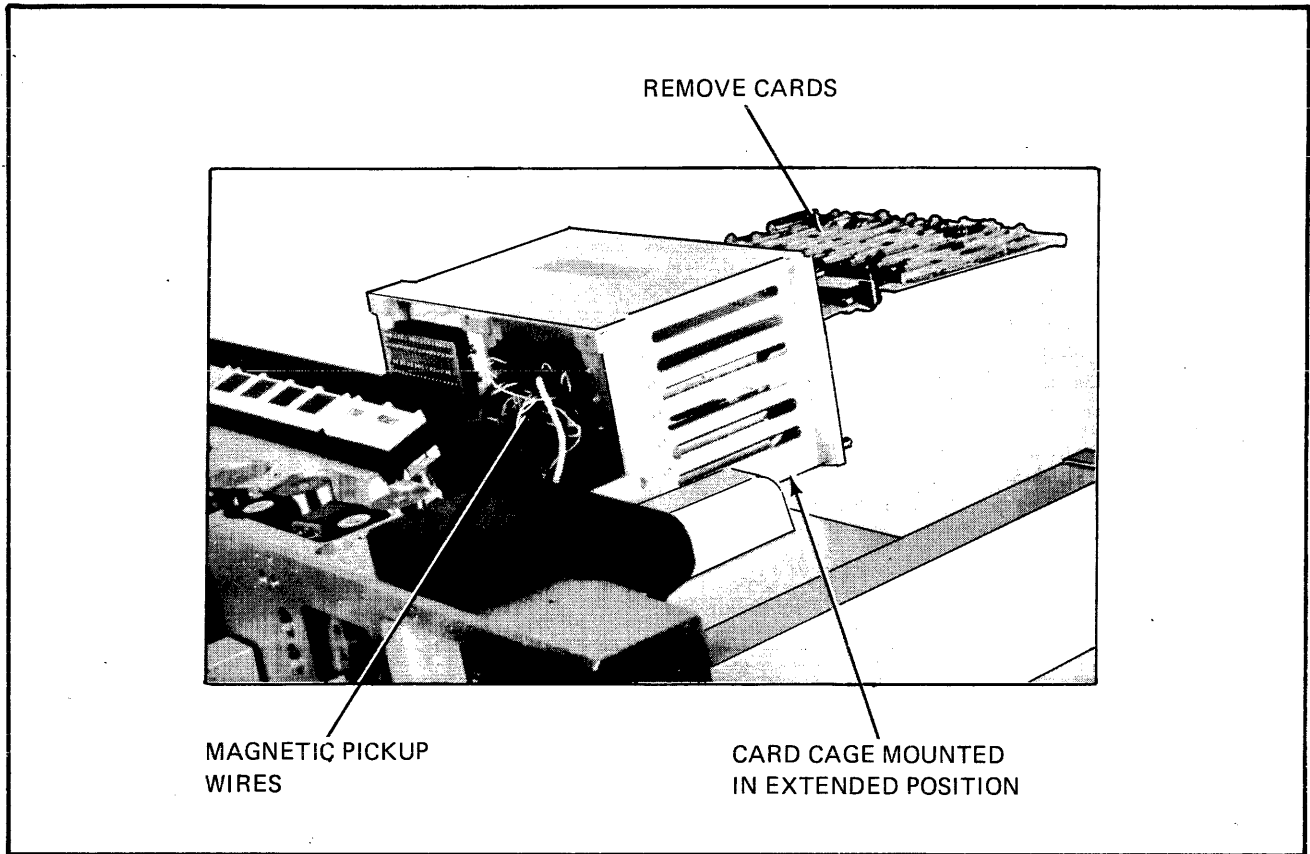

Figure 9-13. Card Cage in Extended Position
- g. Remove all cards from card cage using extractor levers, Figure 9-13.
identified with their proper position in the card cage connector, Figure 9-13.